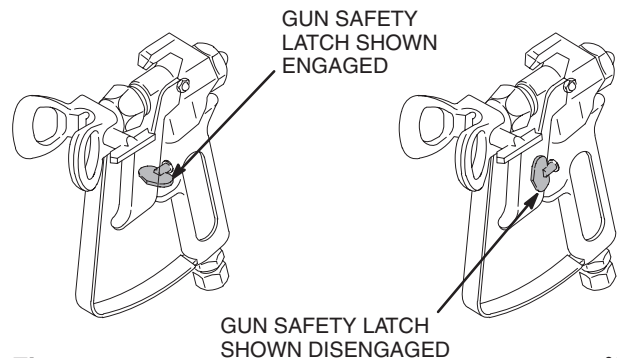

Fig. 3 0137
- b. Disengage the gun safety latch. See Fig. 3. Following the warning, above, trigger the gun until all air is forced out of the system and the paint flows freely from the gun.
6. **Install the spray tip and tip guard.** Engage the gun safety latch. See Fig. 3. Install the spray tip according to the instructions supplied with it.